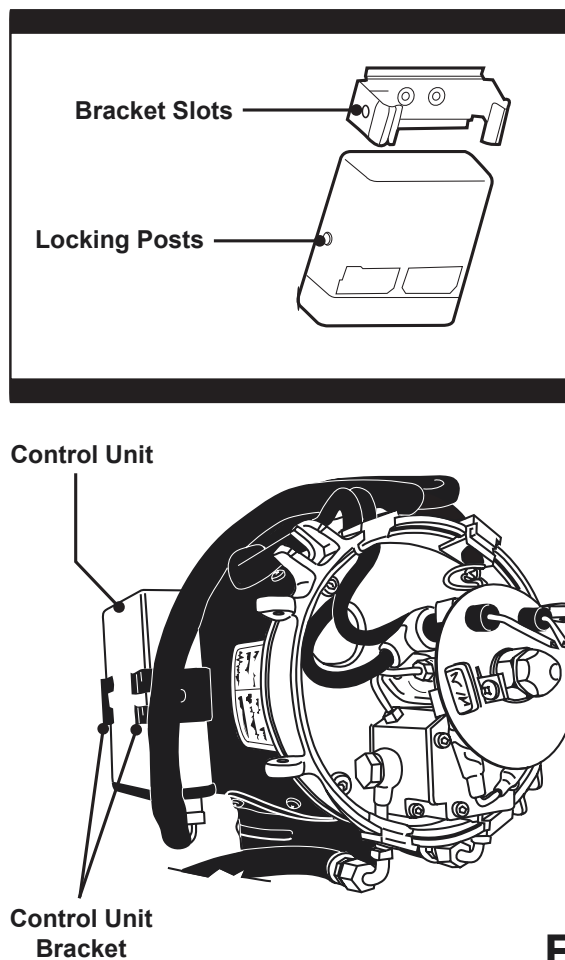

Figure 27
2. Slide the new *Control Unit* into the *Control Unit Bracket*, reference Figure 27. Push down on the *Control Unit* until the locking posts snap into the bracket slots. Reinstall both the *B-Plug* and *C-Plug*.
NOTE: Be sure to install the *Control Unit* with its *C-Plug* and *B-Plug* ports facing downward. Failure to do so, will result in moisture collecting in the ports and potential damage to the Control Unit's internal circuitry, reference Figure 27.